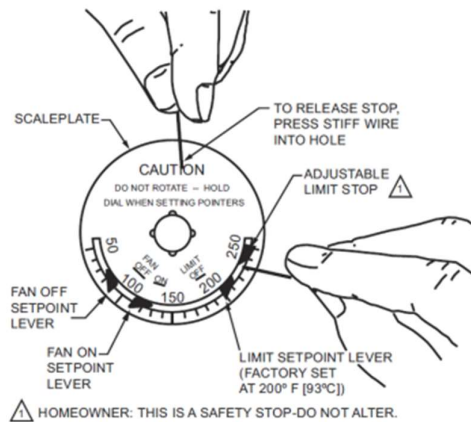

Fig. 10. Changing the high limit stop.
When adjusting the fan and limit set point levers (Fig. 10), hold the scaleplate dial to keep it from turning and straining the sensing element. Move each indicator lever to the control point recommended by the burner or furnace manufacturer. Use gentle finger pressure.
1. Push the small end of Limit Adjust Tool (196722) through hole in scaleplate (located at caution marking) to depress the stop disc not more than 1/16 in. (1.6 mm) to release stop lock (Fig. 10). Stop disc is on back of scaleplate.
2. While depressing the stop disc, insert the long end of Limit Adjust Tool next to limit stop (Fig. 10) and move the stop to desired setting. *If the L4064 is a replacement control, high limit stop setting should be the same as that of the control being replaced.* (Move stop clockwise to lower the setting, counterclockwise to raise it.) Then remove the limit stop adjust tool.